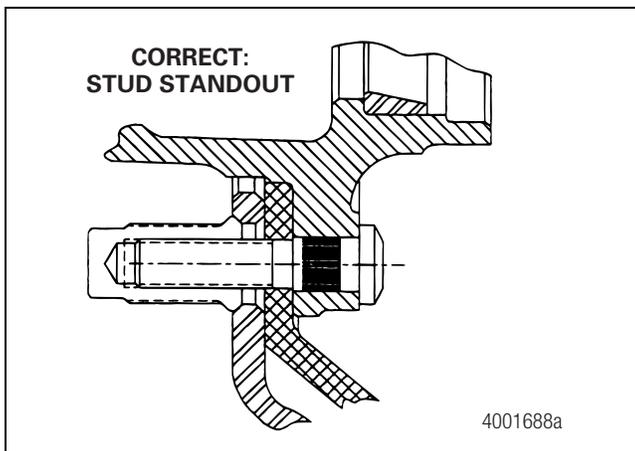

Figure 13.36
- A. Figure 13.36 shows correct standout.